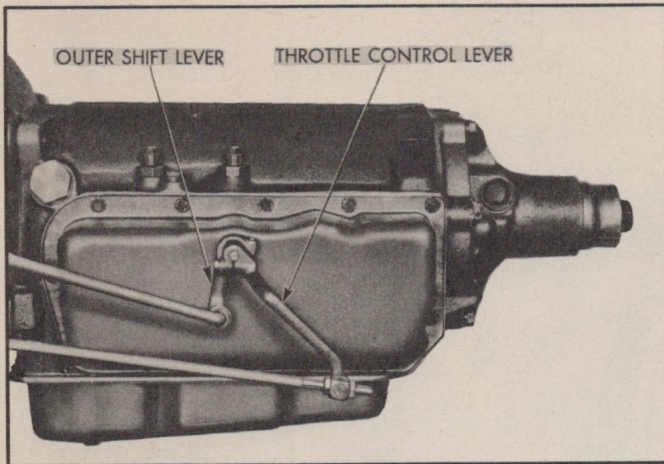

Fig. 90—Outer Throttle and Shift Control Levers
3. Disconnect transmission throttle rear rod from throttle control lever (Fig. 90).